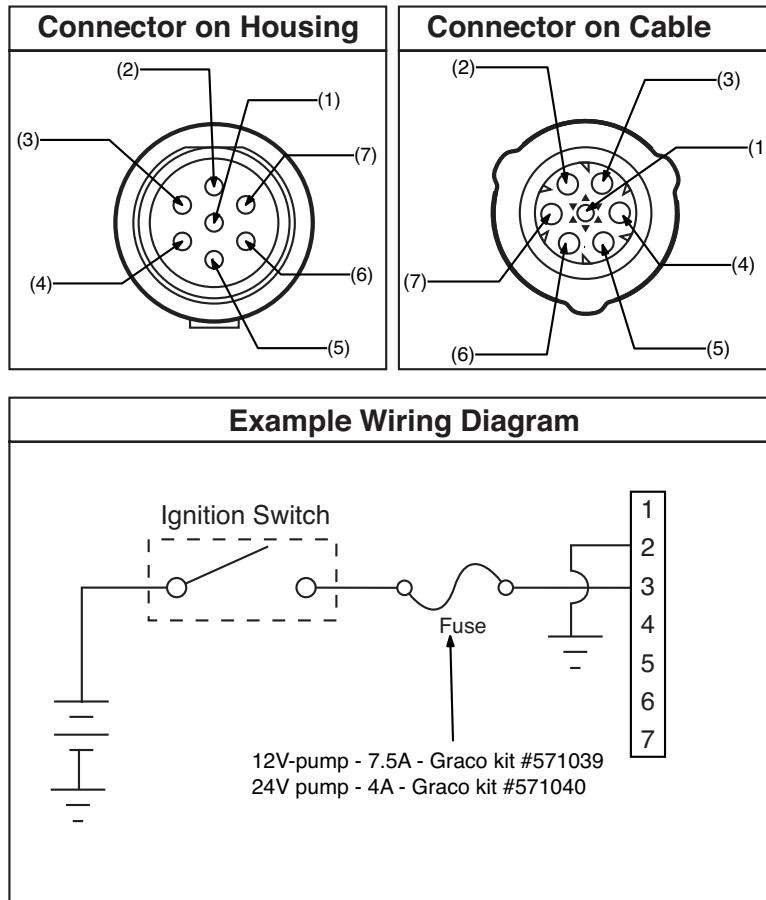

FIG. 4
- See Pin Layout shown in FIG. 4 for proper location in the connector.
Pin and Related Wire Color (FIG. 4, page 15)